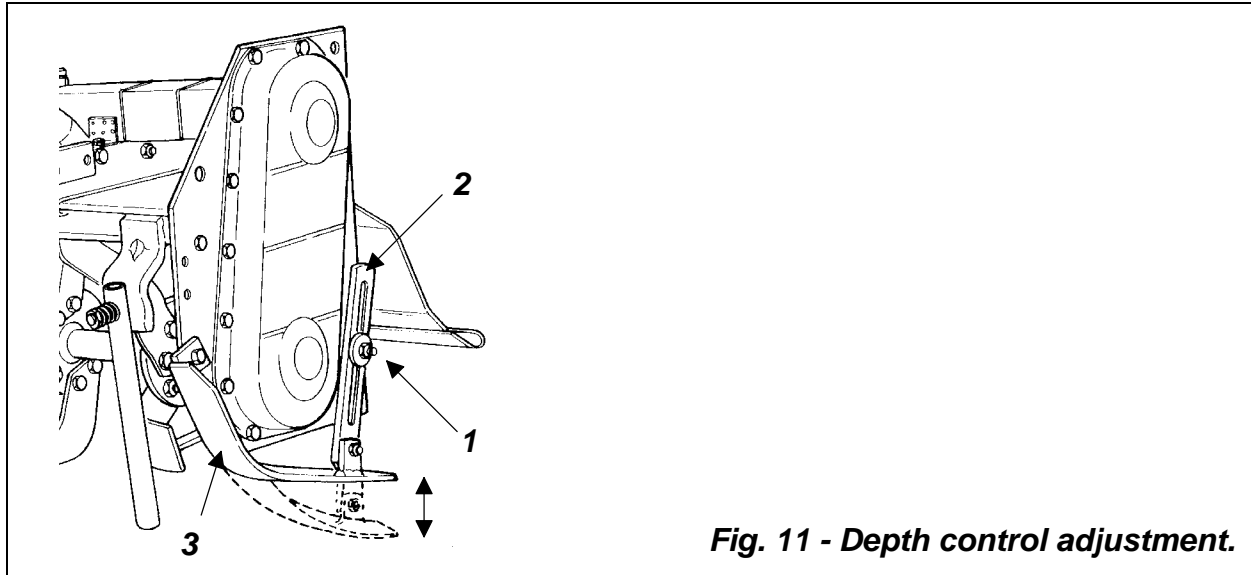

Fig. 11 - Depth control adjustment.
1. Loosen the nut (**see #1, fig. 11**) on the adjustment arm.
2. Place the skid (**see #3, fig. 11**) in the desired position.